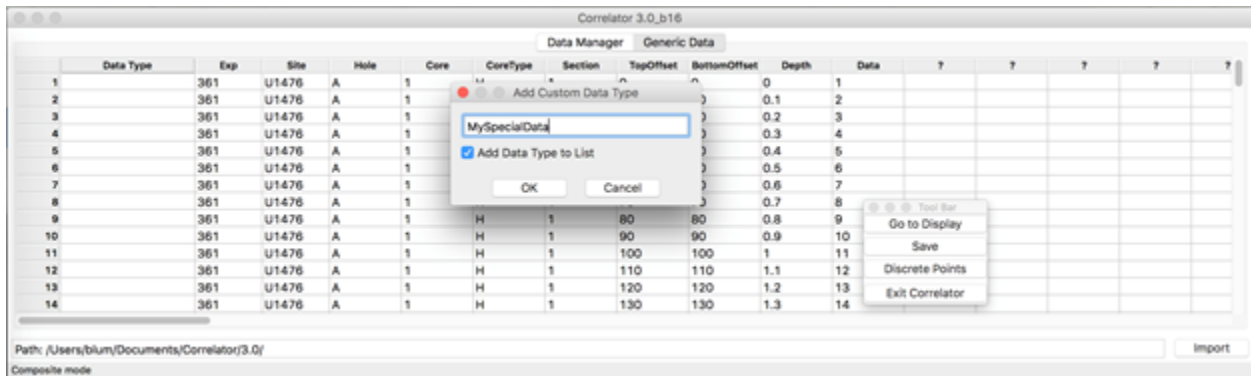

Figure 2-13. Registering a data type not available in the Correlator choice list
- If a suitable data type is not available, create a data label using the *Custom data type* item from the choice list (Fig.2-13).